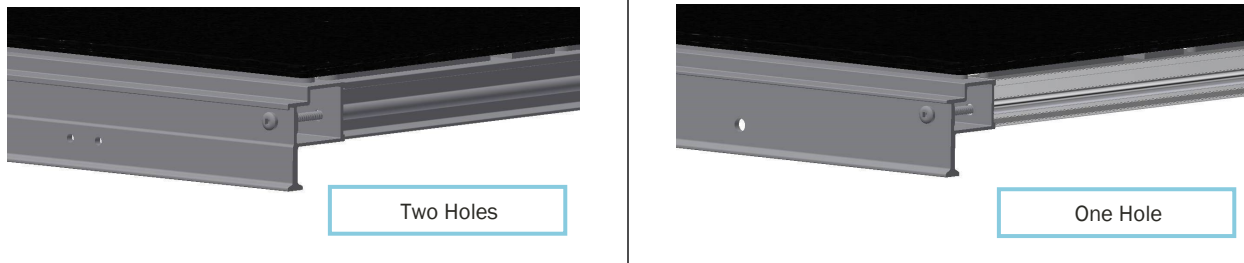

Figure 2: Differentiation Holes on Long Edge Frame Isometric View
- ▶ Quantity of holes at each end of the long frame side (Figure 2)